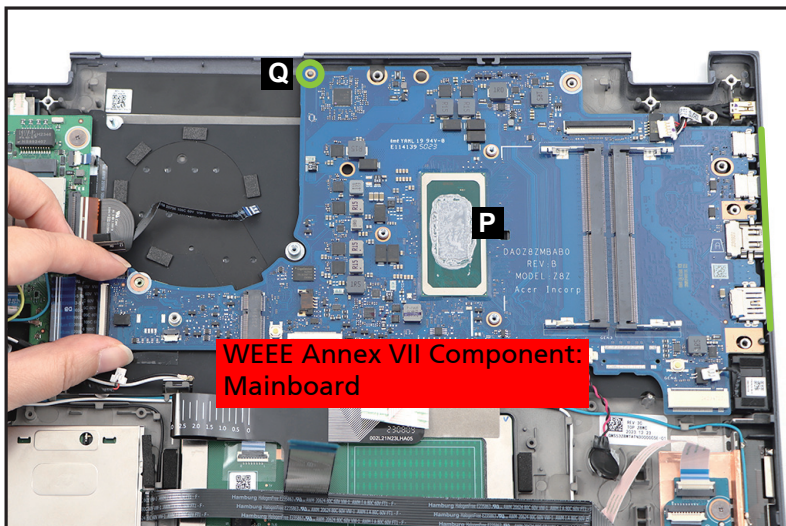

Figure 1-49. Mainboard Removal
15. Release the mainboard (P) from the I/O ports slots and guide pin (Q) on the top assembly (Figure 1-49). Then remove the mainboard.